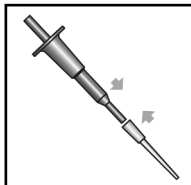

Figure 1
1. Place a yellow pipette tip firmly onto the end of the MiniPet®⁵ (fig. 1).